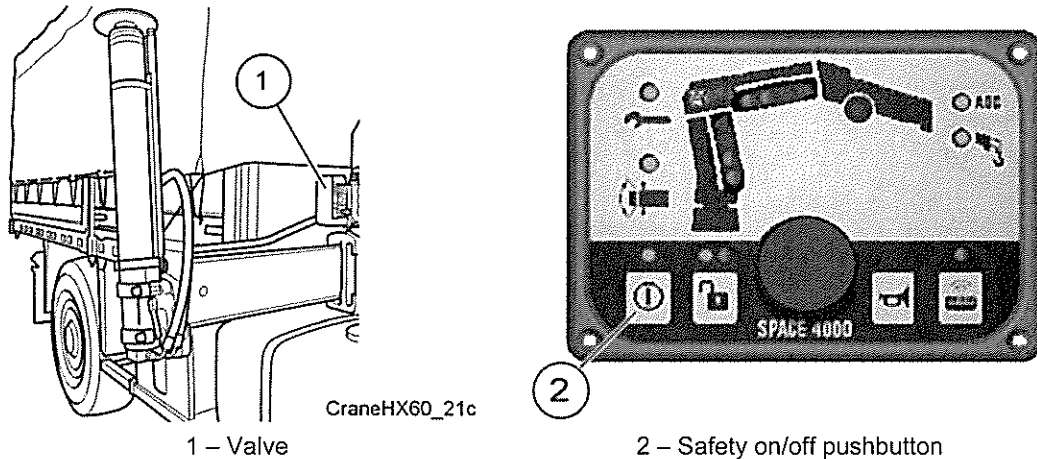

Fig 10 Stowing the stabilizer legs (2)
- 17.9 Refer to Fig 10. Operate the valve (1) to retract the stabilizer beam.